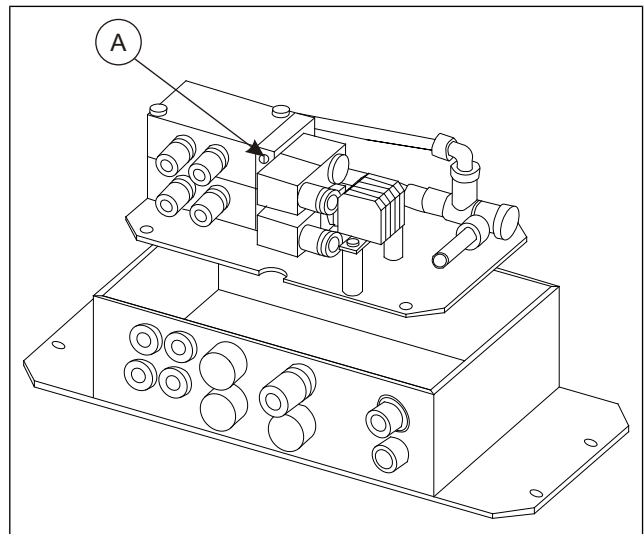

Fig. 2. Manual control of solenoid valve: A - manual control screw.
4. Using manual control, open the solenoid valve on top (in connection box) to position 1, and the sample delivery valve and water valve will open (Fig. 2).